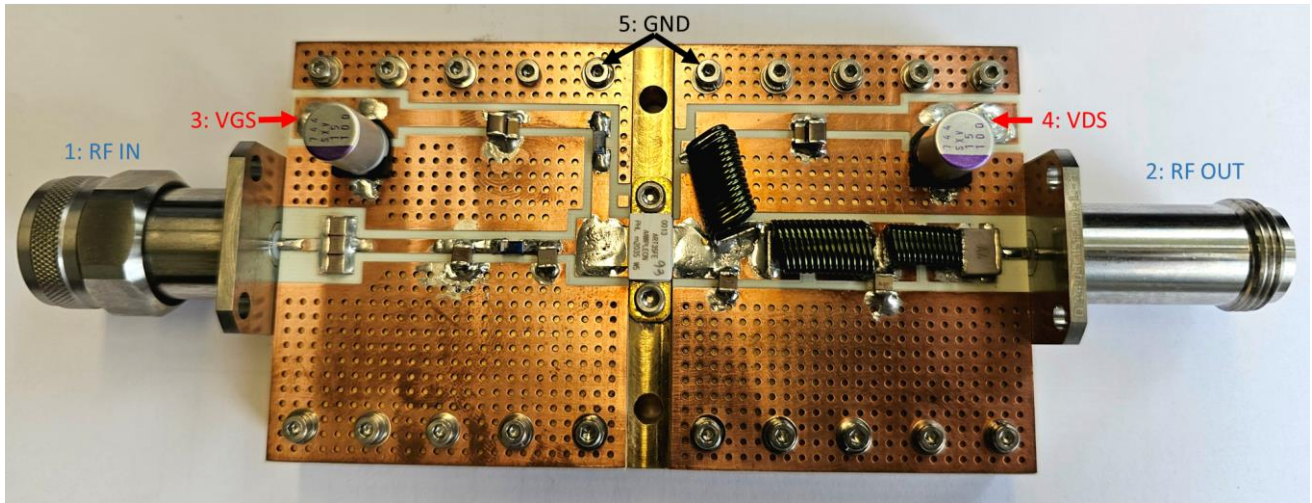

Figure 13 Application board pin configuration
- Figure 13 Application board pin configuration 11